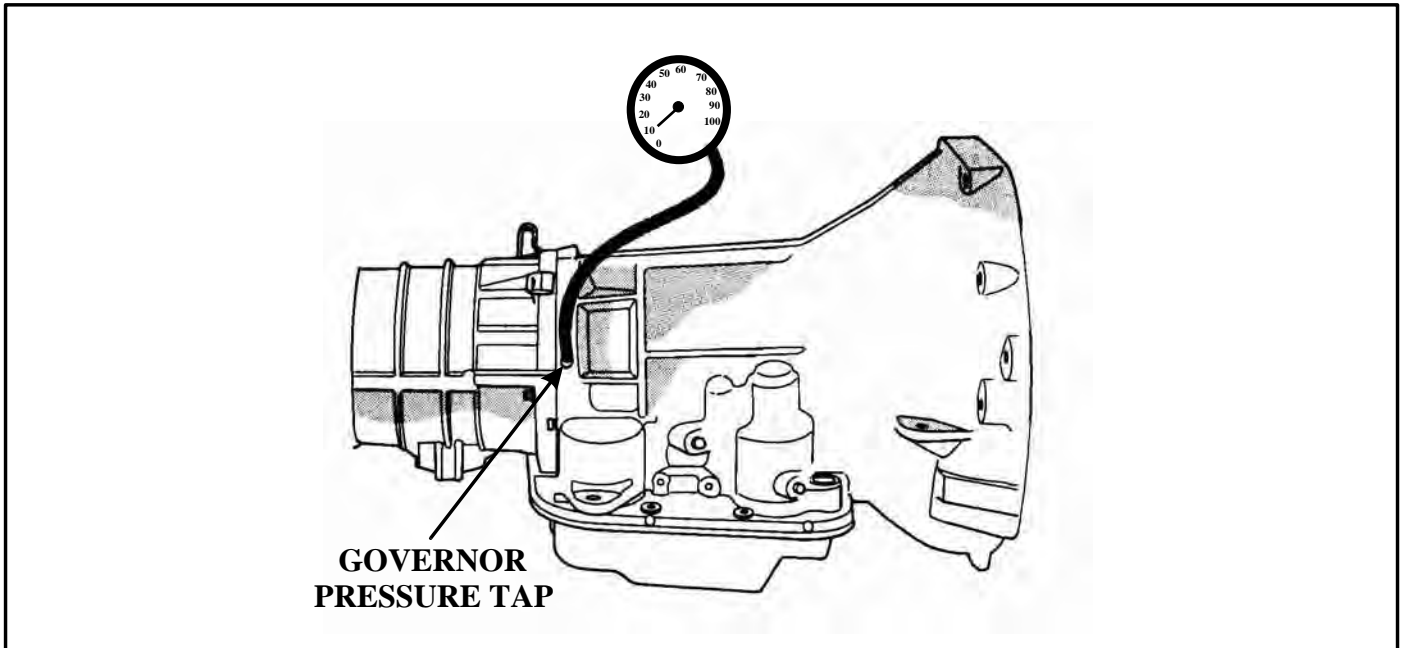

Figure 1
- (1)** If the vehicle has a wrong gear start and upshifts to fourth gear, place a pressure gauge on the governor tap, as shown in Figure 1. Should 0 PSI be observed while taking off in second gear, a sticking 1-2 shift valve is the cause. To correct this condition will require removing the valve body and freeing the 1-2 shift valve. Should 7 to 12 PSI be seen at 0 MPH, the governor pressure sensor or the governor pressure solenoid may be the problem. If a DRB III scanner *is* available, go to Step 2 as the next diagnostic procedure. If a DRB III scanner *is not* available, go to Step 3.
- (2)** Chryslers dedicated DRB III scanner displays governor pressure sensor values that the computer monitors. The governor pressure sensor provides information to the computer as to the approximate pressure in the governor circuit. If at a stop, the sensor tells the computer that 0 PSI is in the governor circuit, but a pressure gauge reveals that there is actually 12 PSI in the governor circuit, the computer does not know to cycle the governor solenoid to a lower pressure since it already thinks it is at 0 PSI. If the sensor indicates that 12 PSI is in the governor circuit, and the pressure gauge verifies it, this means that the sensor is working properly and the governor pressure solenoid is most likely defective and will need to be replaced.
- (3)** Without the DRB III scanner, voltage checks will have to be made on the governor pressure solenoid wire, and the governor pressure sensor wire with your DVOM, while a pressure gauge is attached to the governor pressure port as shown in Figure 1. Following is the procedure for these tests.